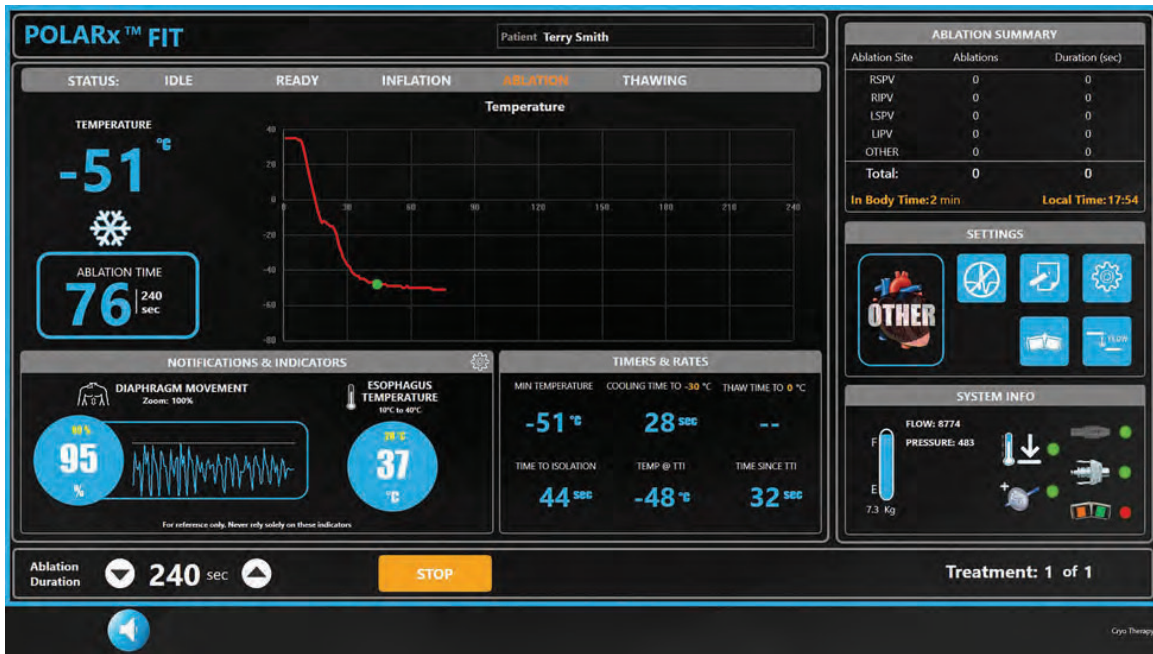

Figure 33. Therapy Screen - **ABLATION** state with larger cryoballoon
- See Figure 33 for an example of an **ABLATION** state with the larger cryoballoon.
Note: Flow rates are higher when using larger balloon size (refer to Figure 33).